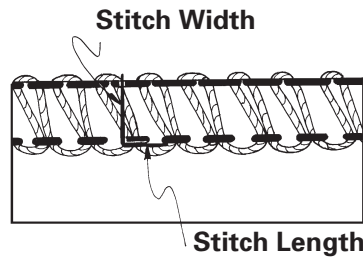

Fig. 16-9
14. Stitch length. The distance (in millimeters) between the points where the needle enters the fabric to form stitches. (Fig. 16-9)
15. Stitch width. The distance from the needle to the trimmed edge of the fabric after a stitch is formed. (Fig. 16-9)